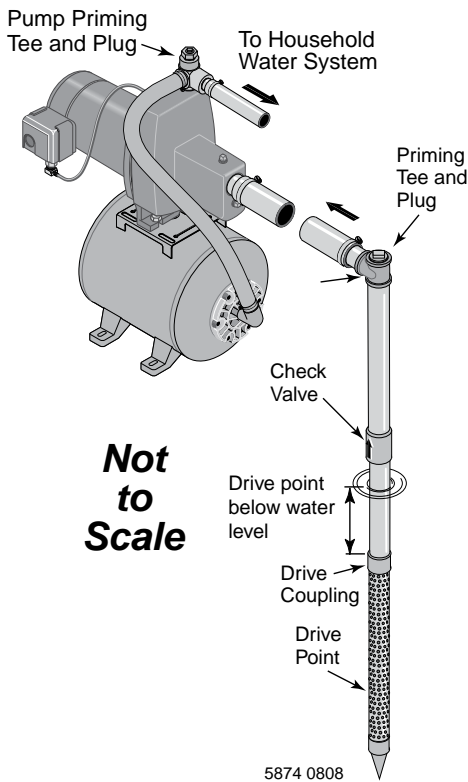

Figure 1: Driven Point Installation
Install a check valve as close to well as possible on well point installations. A foot valve must be installed in the well on dug or cased wells. See Figures 1 and 2. For long horizontal pipe runs, install check valve as close to well as possible (all types of wells).
Well Point (Driven Point) Installation (Figure 1)
3. Use the fewest possible fittings (especially elbows) when connecting the pipe from the well point to the pump suction port. The suction pipe should be at least as large as the suction port on the pump (include a check valve if your pump is not equipped with one – see Figure 1). Support the pipe so that there are no dips or sags in the pipe, so it doesn’t strain the pump body, and so that it slopes slightly upward from the well to the pump (high spots can cause air pockets which can air lock the pump). Seal the suction pipe joints with PTFE pipe thread sealant tape. Joints must be air- and water-tight. If the suction pipe can suck air, the pump cannot pull water from the well. If one well point does not supply enough water, consider connecting two or three well points to one suction pipe.